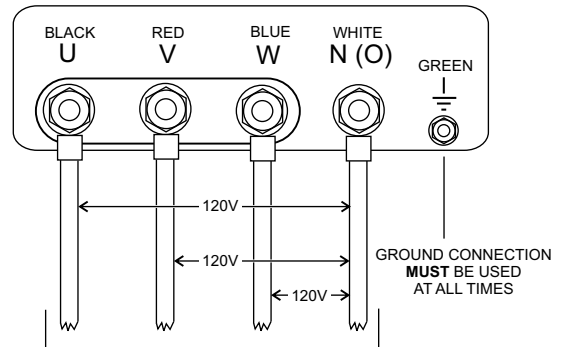

Figure 34. UVWO Terminal Lugs 1Ø-120V Connections
2. Connect the load wires to the UVWO terminals as shown in Figure 34.